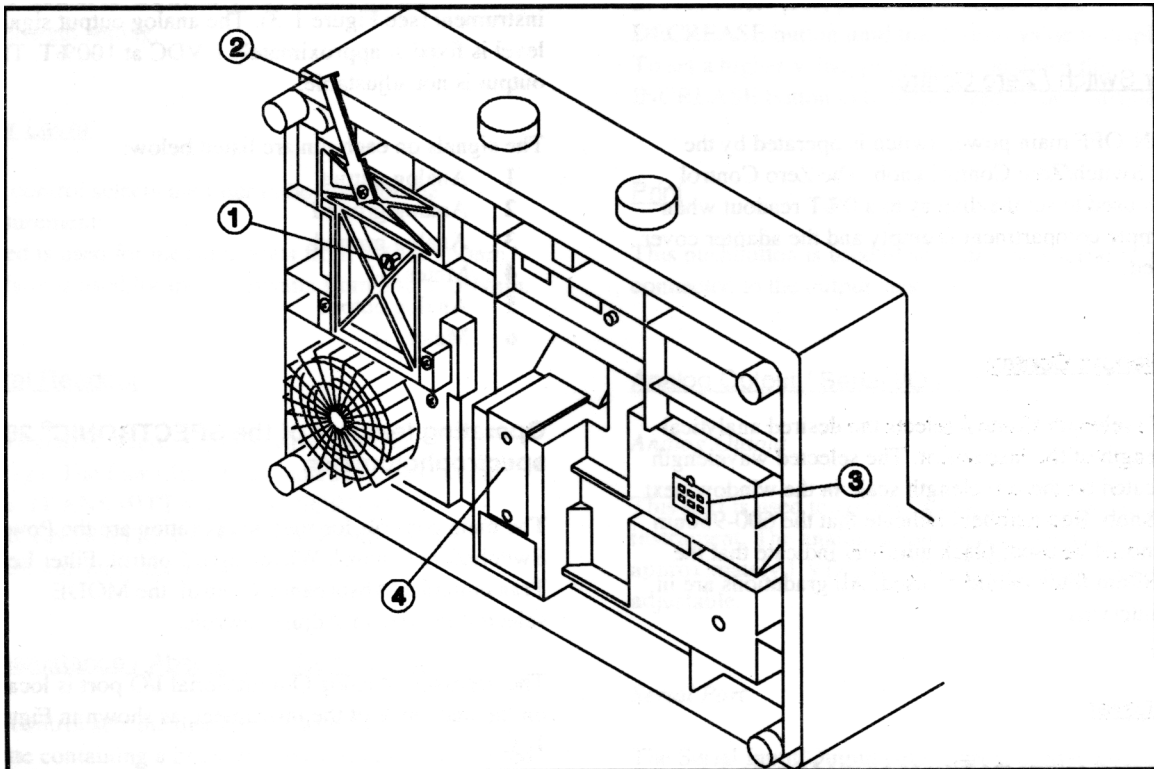

Figure 1-3 Bottom view of SPECTRONIC 20+ or 20D+
The main features on the underside of the instrument are shown in Figure 1-3.
This jack is used to connect an analog recorder to the instrument (see Figure 1-3). The analog output signal level is fixed at approximately 1 VDC at 100%T. This output is not adjustable.
The accessory Analog Output/Serial I/O port is located on the underside of the instrument, as shown in Figure 1-3.
3. Loosen the thumbscrew on the lamp access door and open the door (see Figure 1-3).